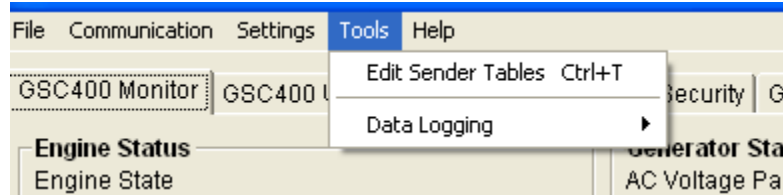
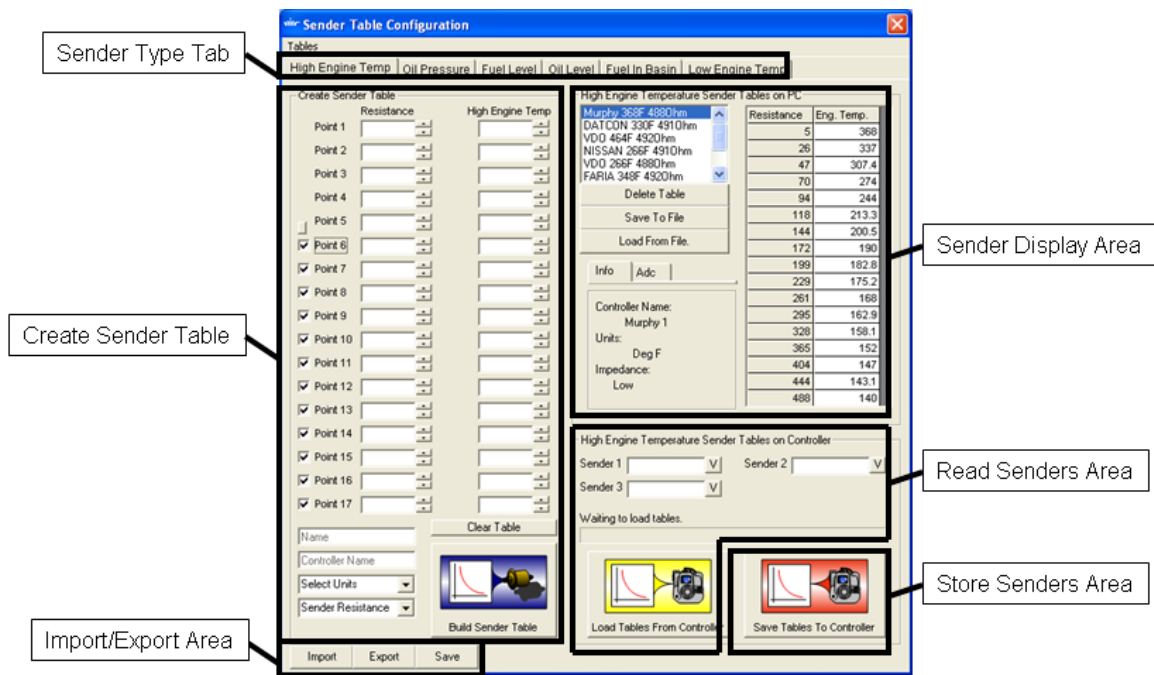

Figure 35 – PC Interface main window menu located at the top of the window.
Figure 36 – Sender Table Configuration Utility
The utility is opened from the PC Interface main window. To open the utility go to Tools in the top menu and click on Edit Sender Tables (Figure 35). The utility will open as shown in Figure 36.
This section will step through the areas of the Utility window as shown in Figure 36. The next section will contain more detail on how to save senders to the controller and how to create custom sender tables.
1. Click on the tab of the sender type you want to create a table for (Sender Type Tab in Figure 36).
2. If you want to modify an existing sender table, select the sender table from the list (in the Sender Display Area in Figure 36), right click on the selected sender table, and select one of the three options that appear.